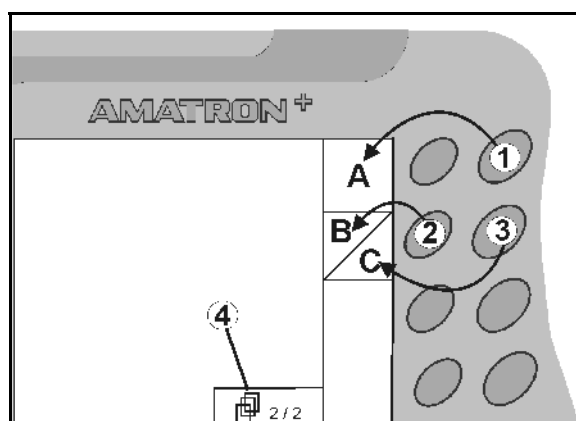

Fig. 7
- If boxes appear on the display, only the right key (Fig. 7/1) is assigned to the function field (Fig. 7/A).
- the left key (Fig. 7/2) is assigned to the top left function field (Fig. 7/B) zugeordnet.
- the right key (Fig. 7/3) is assigned to the bottom right function field (Fig. 7/C).
<ul style="list-style-type: none"> • Scroll to other menu pages (only possible if (Fig. 7/4) appears in display)